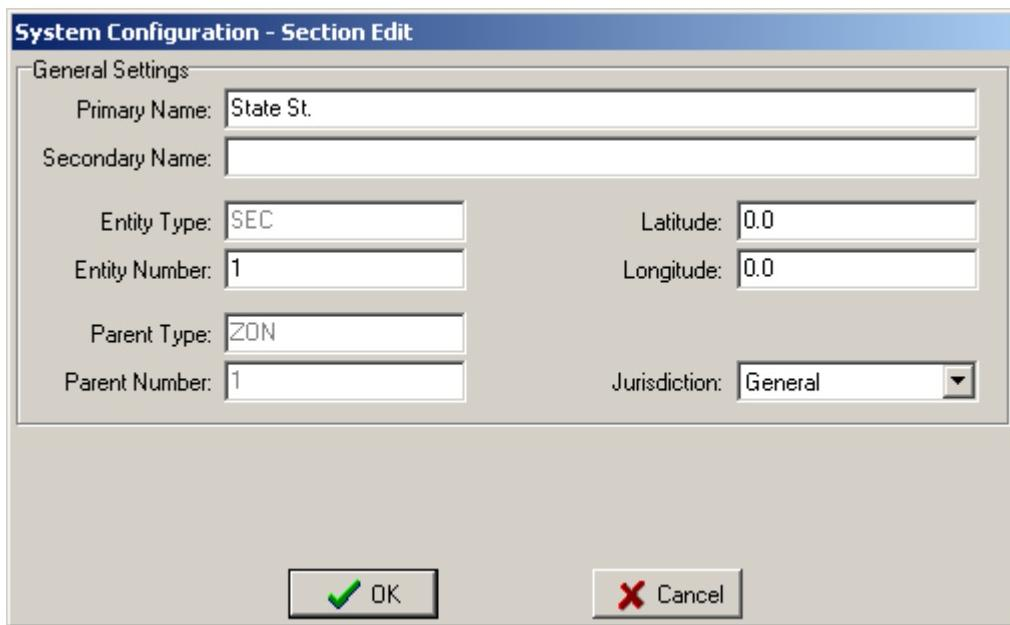

Figure 4-4: Defining a Section
2. Select ‘SEC’ from the Object Types pull down list. Figure 4-4 will then appear.